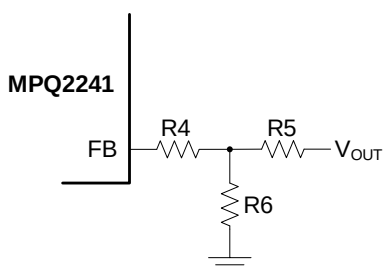

Figure 3: Feedback Network
The external resistor divider connected to FB sets V_{OUT} (see Figure 3). The feedback resistor (R4) must account for both stability and dynamic response, so it cannot be too large or too small. R5 is estimated to be 100k Ω . R6 can be calculated using Equation (2):
Using a T-type feedback network is highly recommended (see Figure 3).